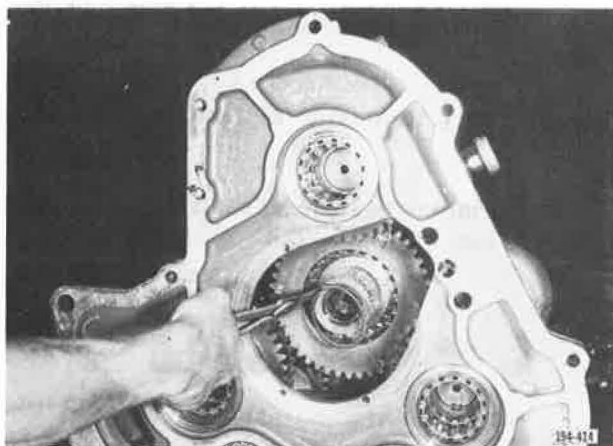

Figure 5-719. Removing Snap Ring
7. Remove Hi-range gear snap ring through the rear case front opening using snap ring pliers J-6435 or equivalent. See **Figure 5-719**.